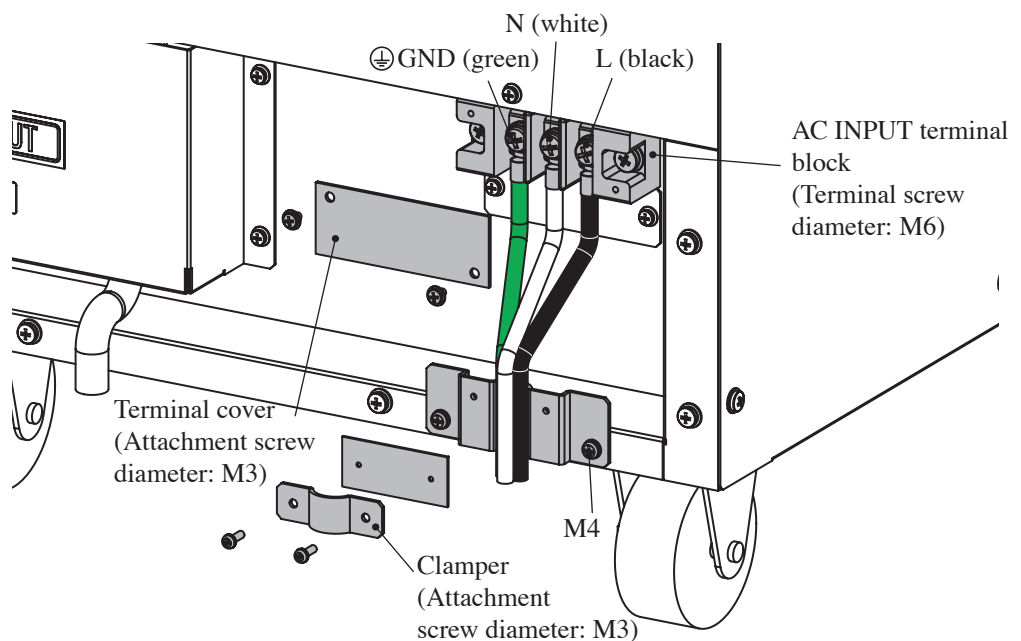

Fig. 1-6 AC INPUT terminal block connection of Type IV model
1. Connect the power cord provided to the AC INPUT terminal block and fix the cables securely by clamper as shown in Fig. 1-6.